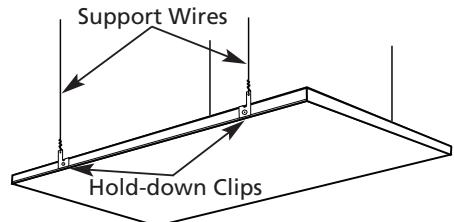

Figure 2
CAUTION *To prevent possible injury from falling panels, the T-Bar must be securely fastened to the building structure and capable of supporting the weight of the panel (30 pounds). Extra holes are provided for suspending the heater panel (see Figure 2) on steel wires no smaller than No. 18 ga. (0.047 in. diameter / 0.119 cm diameter). These extra support wires must be used where T-Bar strength is inadequate or where vibration is anticipated.*
2. Three (3) inch (7.62 cm) minimum distance must be provided between the front painted surface and the ceiling above. However, installation may be difficult and six (6) inches (15.2 cm) or more clearance will improve installation of heaters and inspection of wiring. It may be necessary to remove a cross tee for installation when T-Bars are at close distances to the ceiling.
4. The heater panels are supplied with four built-in hanging/hold-down clips which are located on each long side of the heater panel. The clips can be used either to hang the heater with support wires (see Figure 2) or bent as hold-down clips to the T-Bar frame (see Figure 3). Carefully lift heater panel into place, making sure hold-down clips hook securely over T-Bar (see Figure 3).